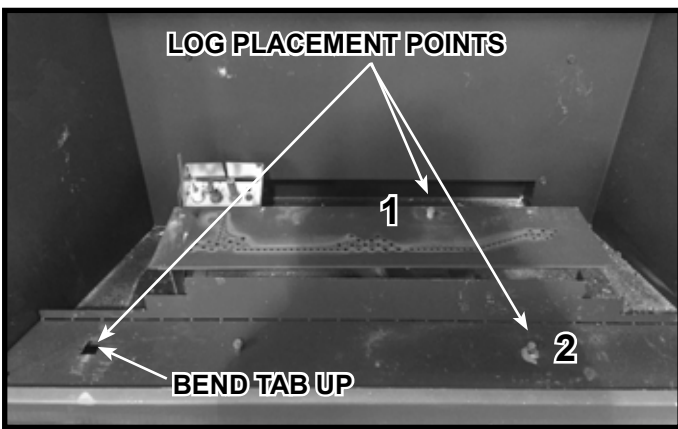
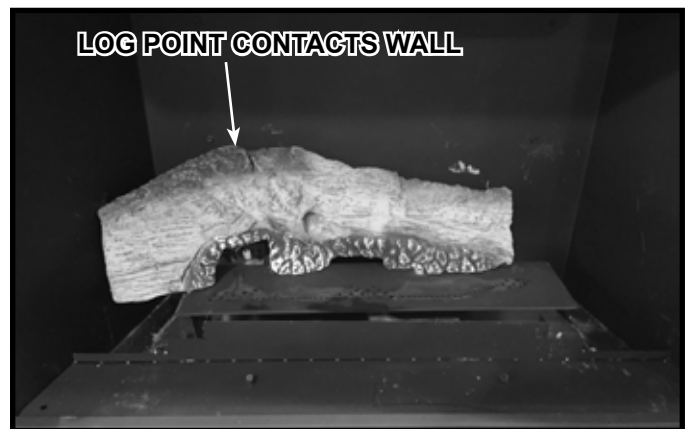
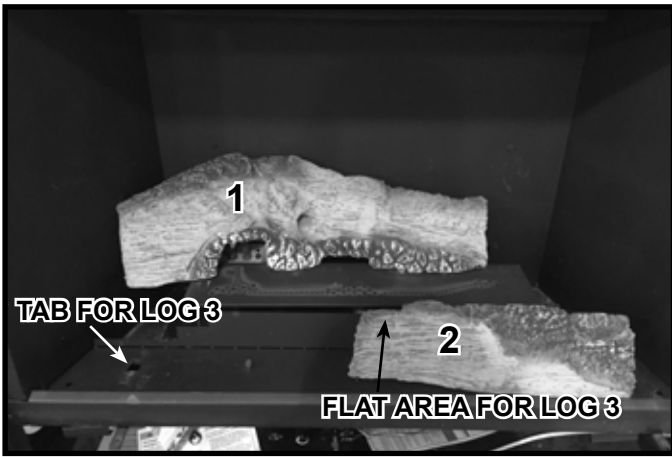
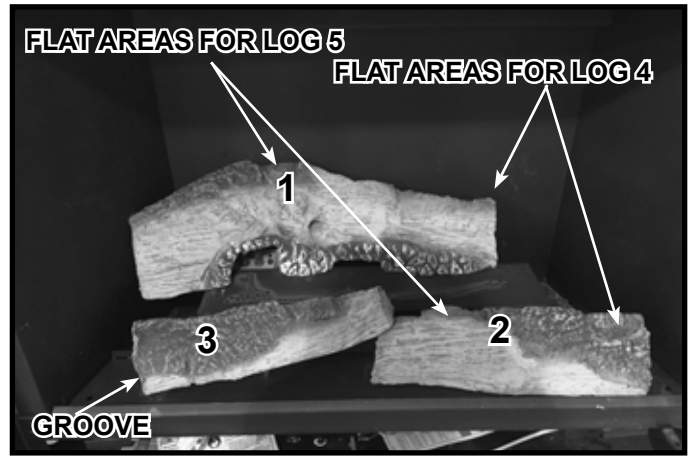

Figure 3.
Figure 4.
Figure 5.
Figure 6.
Figure 3 shows the points used for correct log placement. Bend the tab on the basepan upward to a 90 degree angle as shown. The two shoulder screws will be used in placement of Log 1 and Log 3.
**Log #1 SRV2401-701:** Locate the hole on the bottom right side of Log 1 and the shoulder screw marked "1" in Figure 3. Place the hole onto the shoulder screw as shown in Figure 4. Push the left side of Log 1 back until it contacts the back wall of the firebox.
**Log #2 (SRV2401-702):** Locate the hole on the bottom side of Log 2 and the shoulder screw marked “2” in Figure 3. Place the hole onto the shoulder screw as shown in Figure 5. Push the left side of Log 2 back until it contacts the back of the basepan.
**Log #3 (SRV2401-703):** Locate the groove on the left side of Log 3. Place the log on the tab that was bent up in Step 1 and set the right side of the log on top of the flat area on Log 2. Refer to Figure 5 for tab and flat area. Figure 6 shows Log 3 placed correctly.
**Log #6 (SRV2397-705):** Locate the flat areas on Log 1 and Log 2, highlighted in Figure 6. Place log 6 onto the flat area of Log 2 with the bark facing the front of the appliance. Rest the back of Log 6 onto the flat spot on the far right of Log 1. Log 6 will rest against the back of the appliance.